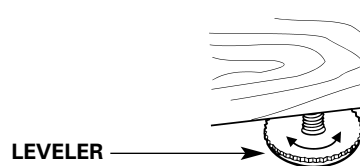

FIGURE 2
**DO NOT REMOVE THE STYROFOAM BLOCKS** from above the cable pulleys. This is one of the most critical points in the entire set-up operation. Removing the styrofoam blocks at this time could cause the cables to overlap and bind the movement. You can remove the styrofoam blocks **AFTER** they become loose through normal operation, which typically occurs after eight (8) hours of run time.
Position the clock into its final location. Once in place, your clock cabinet must be leveled, as the clock may not operate if it is not level. There are four (4) levelers under the cabinet on each corner that can be screwed in (up) or out (down) to make adjustments. Place a level alongside the clock cabinet from front to back and side to side, adjusting the levelers until level. It may be necessary to periodically check your cabinet after initial set-up, (especially if the clock is on carpet), as it might settle after original leveling. (see figure 2). Ensure clock is positioned square and firm on the floor so that it will not fall over.